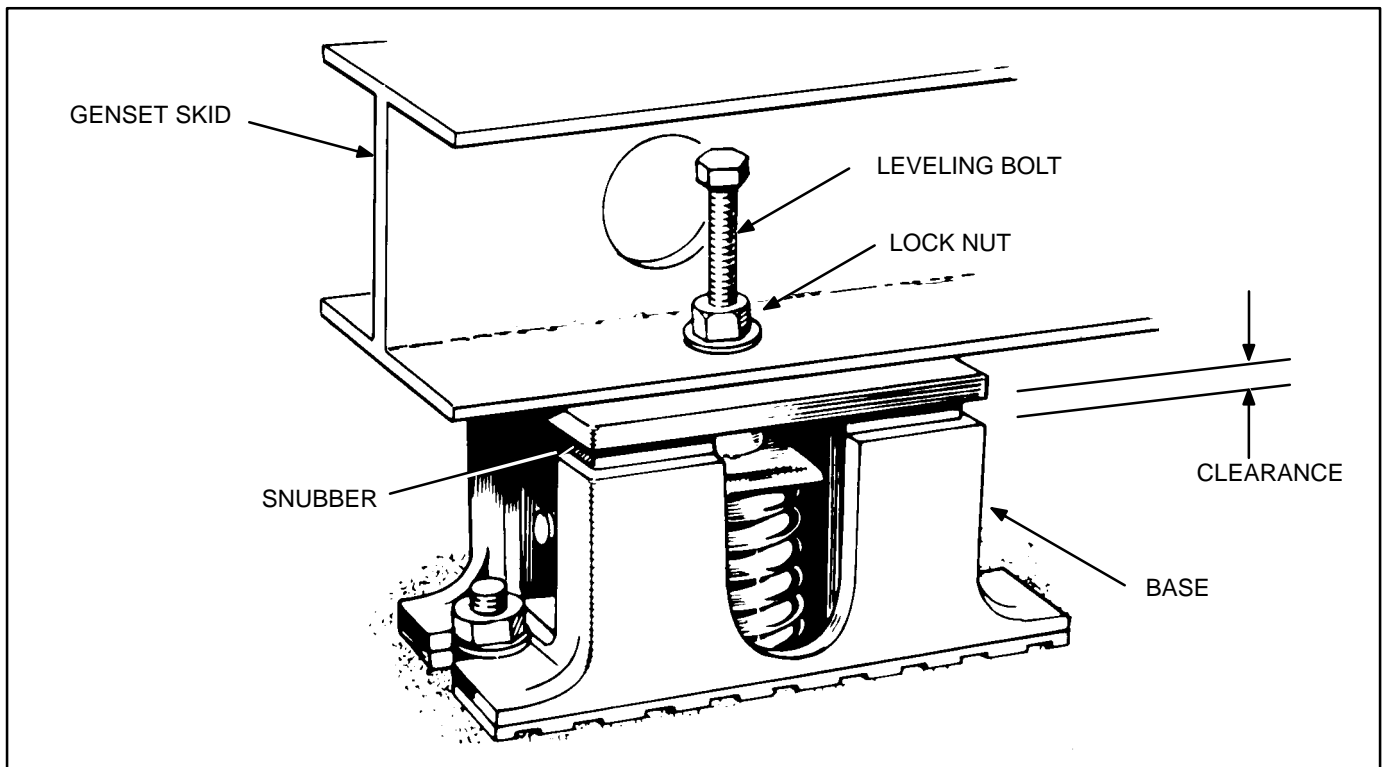

FIGURE 3-3. VIBRATION ISOLATORS
1. Place the vibration isolators (Figure 3-3) on the genset support structure. The isolators should be shimmed or grouted to ensure that all of the isolator bases are within 0.25 inch (6 mm) elevation of each other. The surface that the isolator bases rest on must also be flat and level.